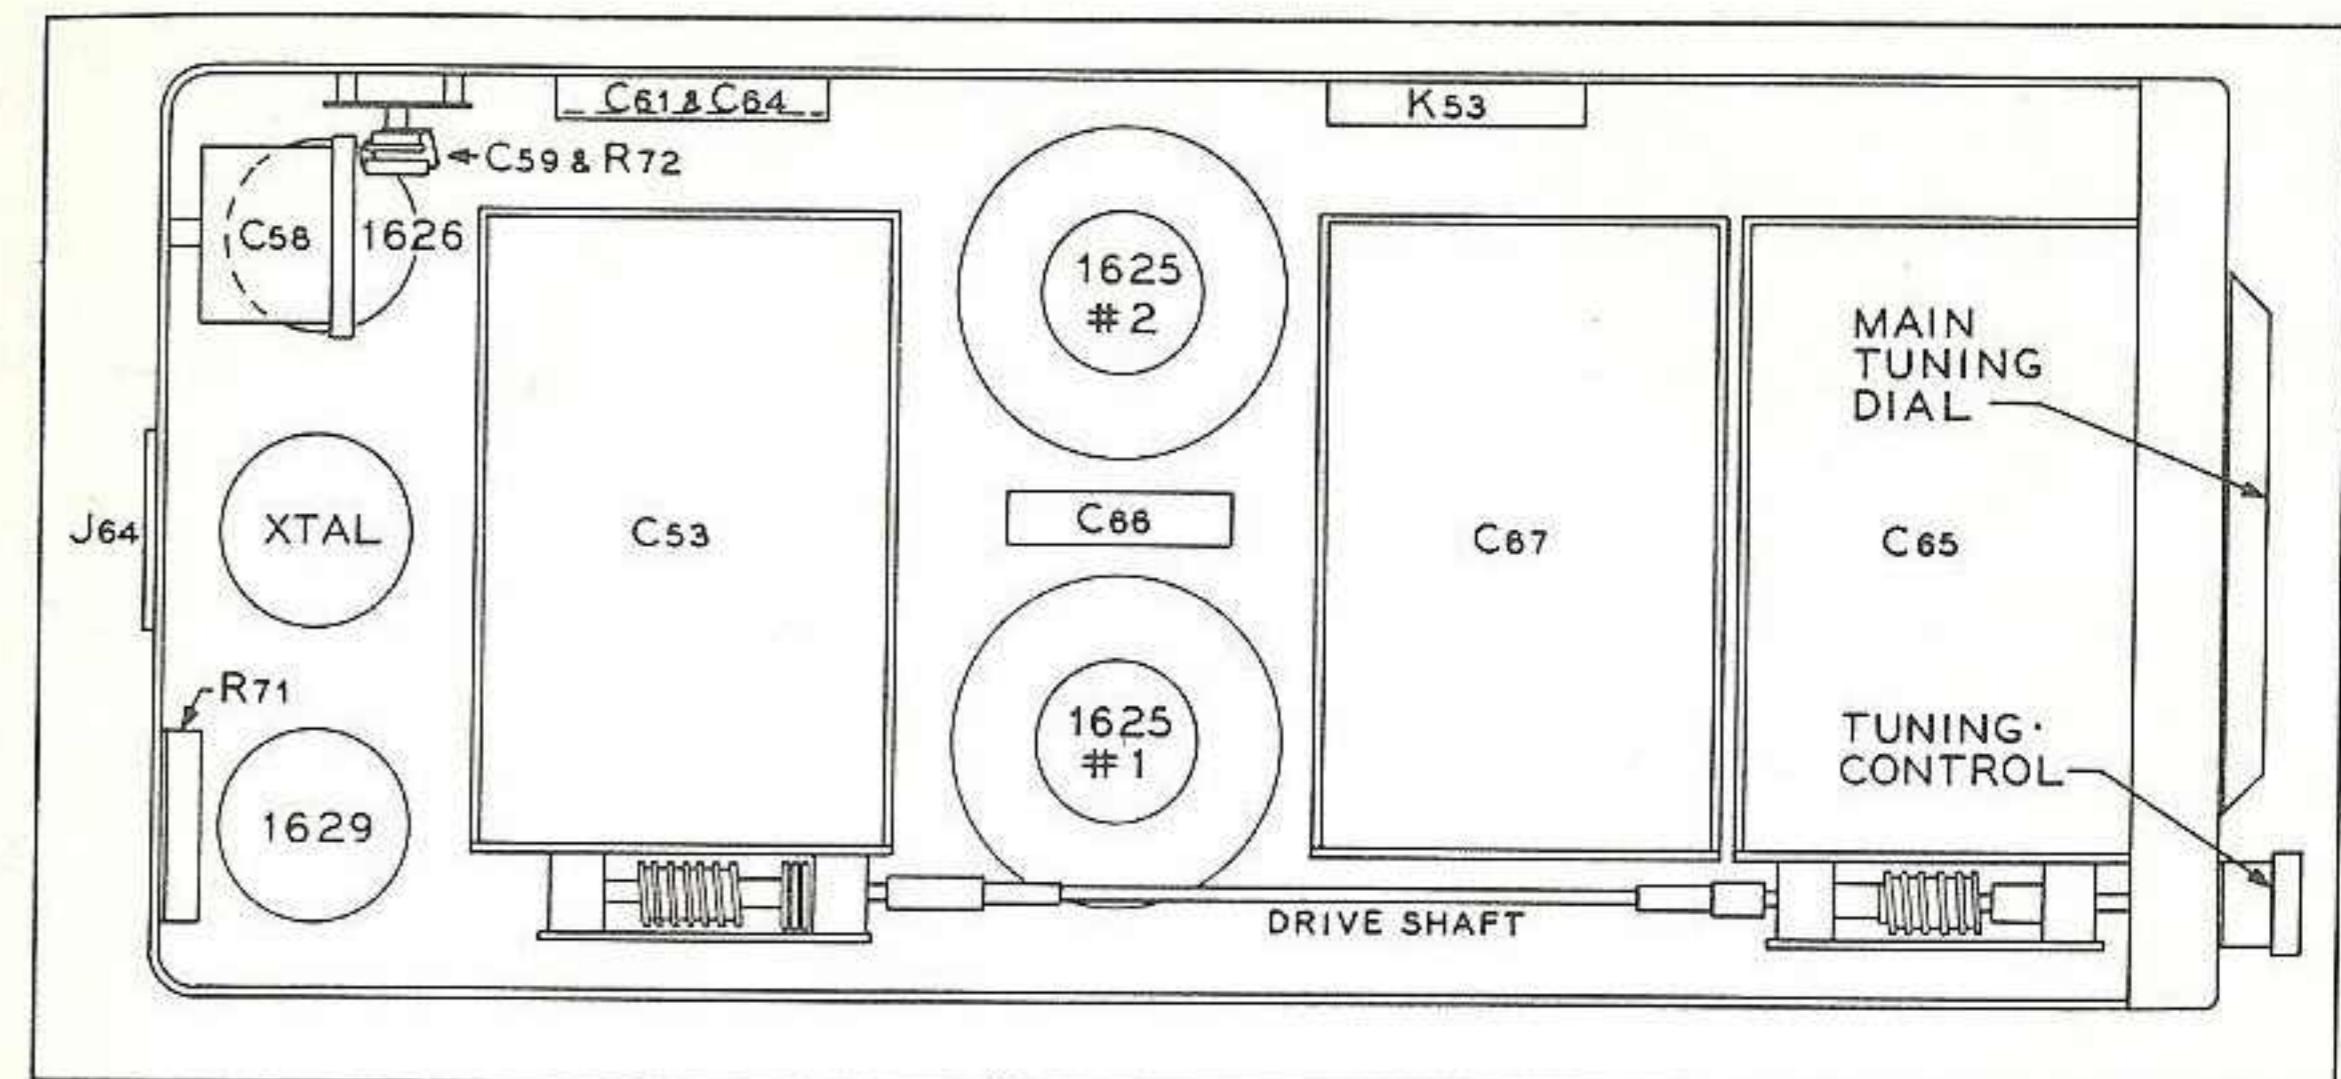

Fig. 11 Under-chassis layout of typical "Command" transmitter, showing placement of major components. Oscillator padding capacitors are atop the chassis.
- () Locate pin 1 of 1625 socket #1 (see Figure 11). This pin has three white wires connected to it.